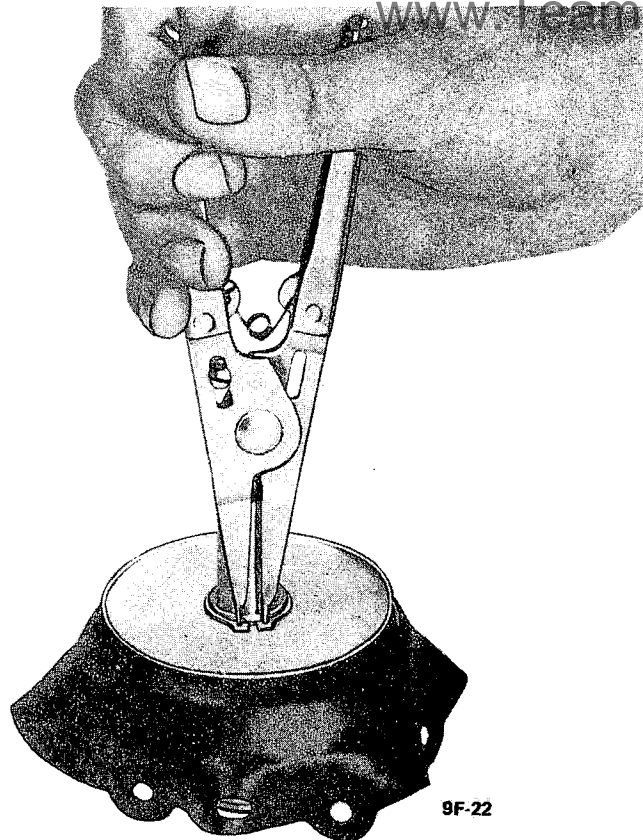

Figure 9F-11 - Removing Snap Ring
1. Remove snap ring with Truarc pliers. See Figure 9F-11.